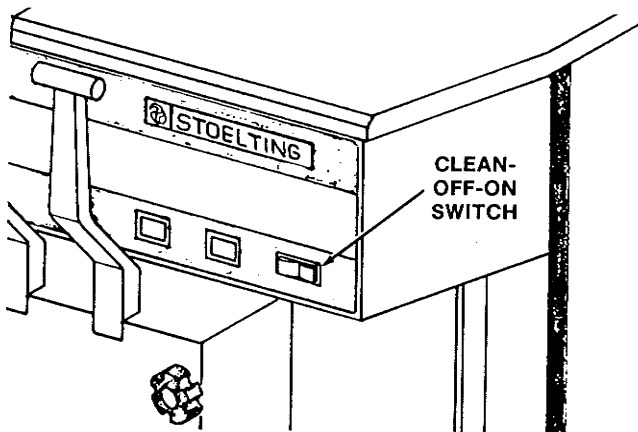

Figure 12. Clean Control
- C. Place the CLEAN-OFF-ON rocker switch in the CLEAN position. Check for leaks around the front door seal (Fig. 12).